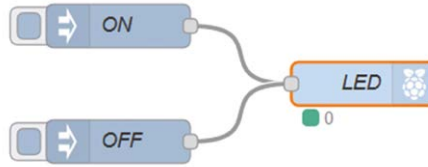

Figure 5.5 Flow program of the project
Node-RED flow program: Figure 5.5 shows the flow program. In this program, two **inject** nodes and a **rpi gpio out** node are used.
- Join the 3 nodes together as shown in Figure 5.5, and click **Deploy**.